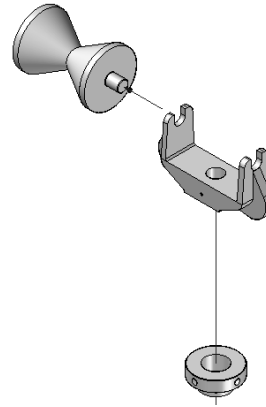

Figure 12-24 The selected part exploded in the specified direction
6. Enter **25** in the **Distance** edit box and then choose the **Explode** button from the **Explode** command bar; the selected component is exploded, as shown in Figure 12-24.